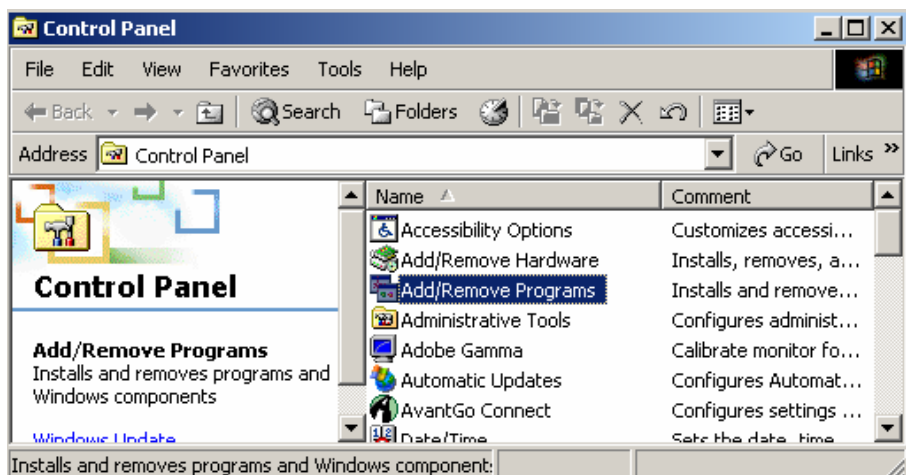

Figure 2.10. Control Panel
2. Double-click on Add/Remove Programs, as shown in Figure 2.10.